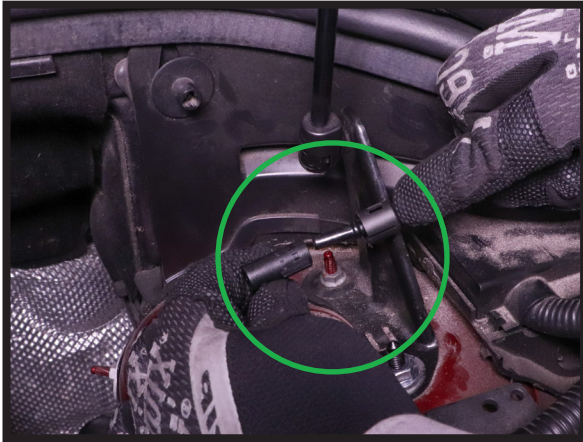

FIGURE 39
10. RECONNECT THE AIR LINE TO THE AIR STRUT. (FIGURES 39, 40)